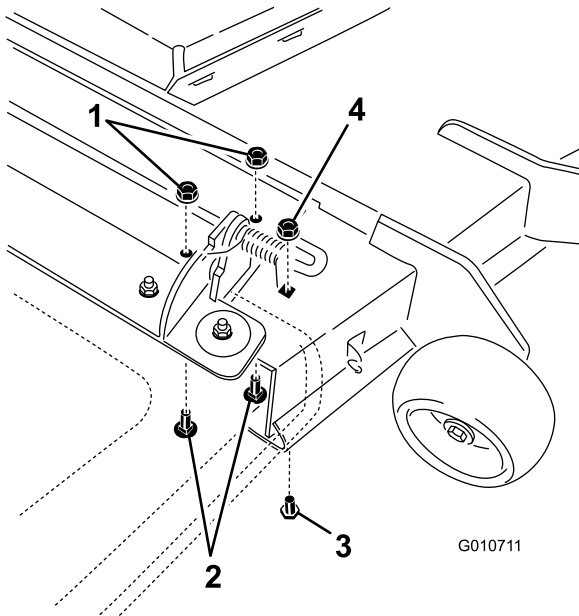

Figure 2
8. Remove the forward set of carriage bolts and locknuts securing the front end of the discharge plate to the mower deck (Figure 2). Remove the forward bolt and lock nut covering the hole in the deck just forward of the discharge plate. Retain the fasteners for future use.